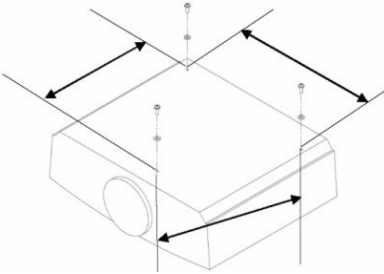
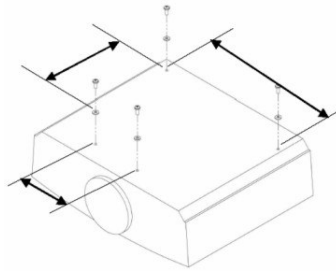

Figure 38: 3-Hole Projector
Figure 39: 4-Hole Projector
1. Measure the width and length between the mounting holes on your projector and save this data for later use. Projectors do not come with a standard mounting-hole pattern, but many have three or four holes (see Figure 38 and Figure 39).